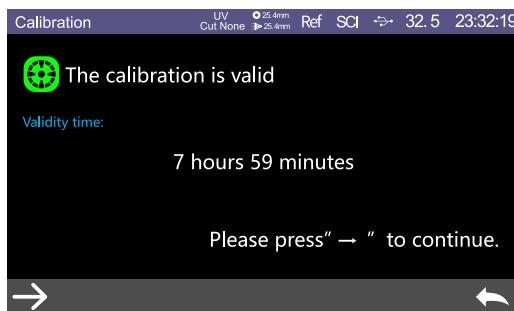

Figure 4 Black and White Calibration
2、Click “Calibrate” to enter white and black calibration interface as shown in Figure 4. It will show whether the calibration is valid or not and how long the remaining time is.
After black and white calibration are finished rightly, the instrument system will reset remaining time according to valid time since last calibration (As shown in Figure 4).
After finishing of calibration rightly, the instrument system will reset remaining time according to valid time since last calibration (As shown in Figure 4).